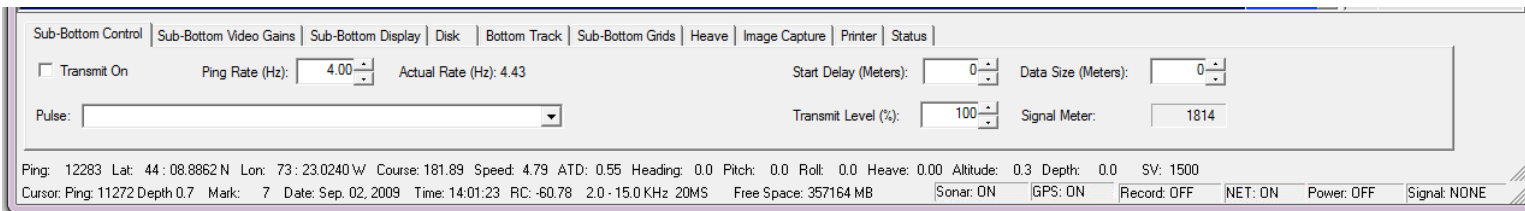

Figure 3-8: The Sub-Bottom Control Tab
4. Next, you should run a Tap Test. To do this, navigation to the Sub-Bottom Control Tab, shown in **FIGURE 3-8**.